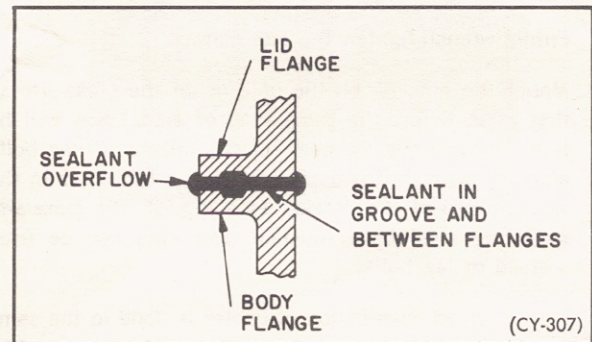

Fig. 7 Model SA-^VI Cross Section of Sealed Flanges on Cast Iron Housing
- 7.12 Inspect the housing on all four sides where the flanges meet; an even overflow all around the flanges is a good indication of proper sealing (see Fig. 7).